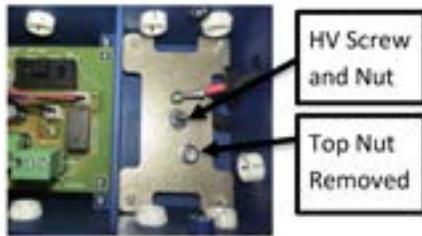
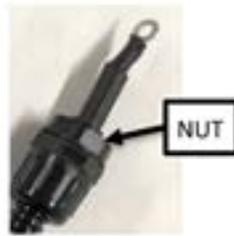
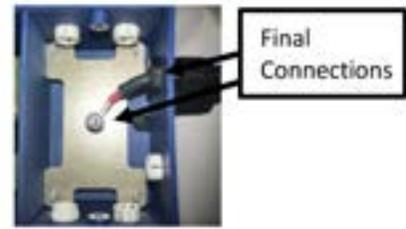

FIGURE 17
FIGURE 18
FIGURE 19
5. Remove the top nut from the HV screw (FIGURE 17). DO NOT REMOVE THE BOTTOM NUT! Remove the plastic nut (FIGURE 18) from the end of the high voltage cable. Next, push the HV wire through the desired port and place the plastic nut back over the HV cable. Place the electrical eye connector over the HV screw and tighten down the top nut to secure. If there are multiple bars connected, place all electrical eye connectors under the top nut prior to tightening. Push the HV connector into the HV port and tighten the plastic nut to secure in place (FIGURE 19). Once all connections are made, replace lid or proceed to connect the control wiring.